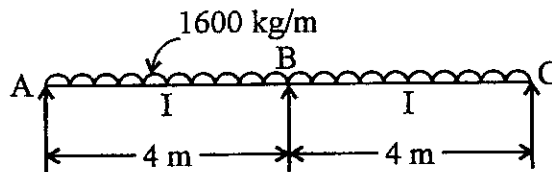

Fig. 4 (i)
4. (i) A Continuous beam ABC is simply supported at A, B and C as shown in Fig 4 (i). The support C is yielding and settles at the rate of 3 mm per 1000 kg. $EI = 8 \times 10^{10}$ kg-cm². Analyze the beam and draw bending moment and shear force diagrams.